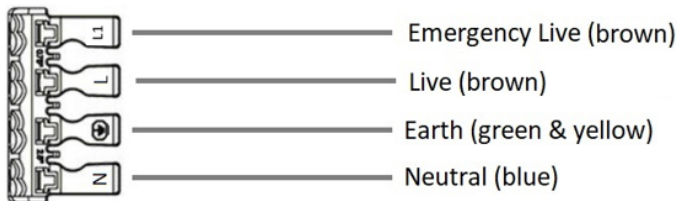

Fig. 2
- Using an appropriate junction box (not included), connect the luminaire to the mains supply ensuring the correct polarity is observed: L – Live (brown), E – Earth (green yellow), N – Neutral (blue) (see Fig. 2). Two cables can be inserted into the push-fit terminal block in order to achieve loop-in/loop out wiring